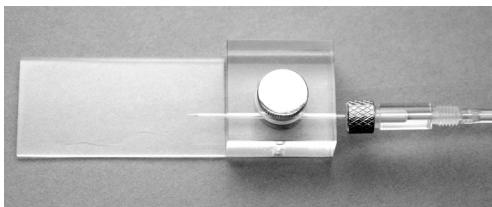

Fig. 14—Stage-mounted acrylic pipette holder
7. Mount the pipette on the stage-mounted acrylic pipette holder and lock it in place with the locking screw (Fig. 14).